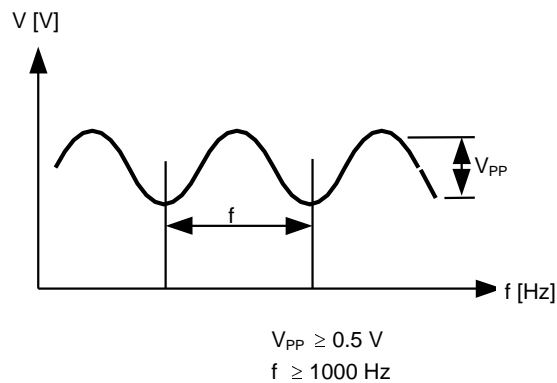

Figure 18
- Do not apply any ripple voltage under the condition in Figure 18 to  $V_{IN}$  terminal.